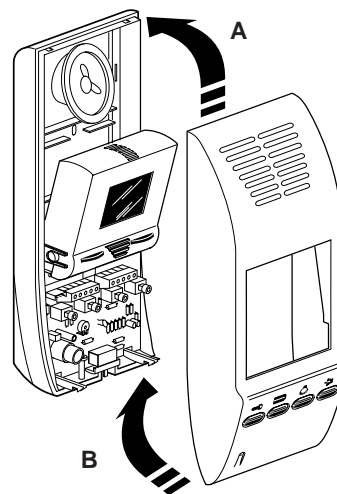

Fig. 4
- Fig. 4 - Insert the monitor housing by hooking the upper part to the lower one and by pressing the latter till the closing snap.